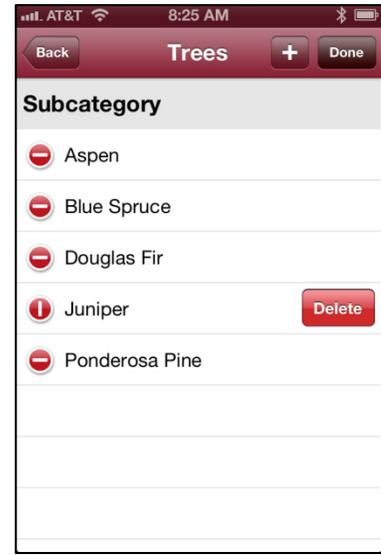

Figure 19
4. Tap the **Done** button in the upper right-hand corner of the screen (Figure 19). The deleted subcategory will no longer appear in the Category List.